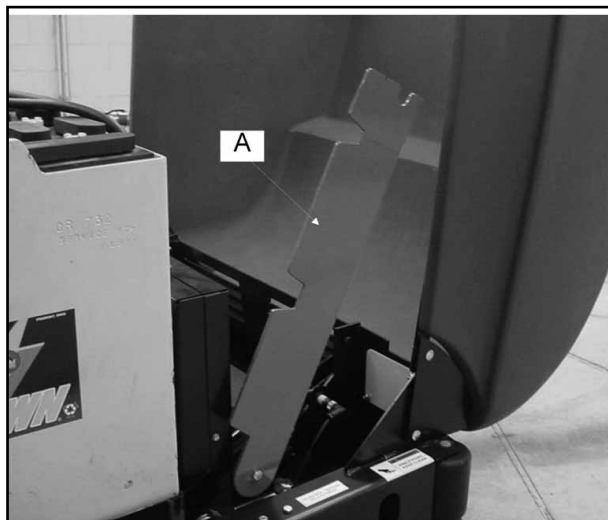

FIGURE 5
2. Fig 5. Rotate the battery lever (A) to the right.